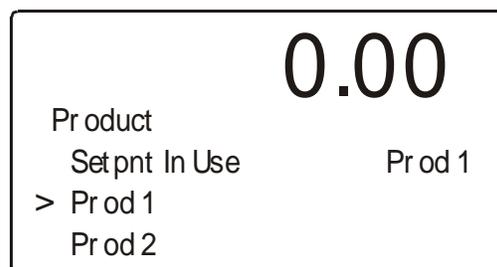

FIG. 3-8 PROCESS SETUP MENU/SETTING PROD 1 PARAMETERS
Step 1. Press the “-” button until the cursor is in front of Prod 1. (See Fig. 3-8)